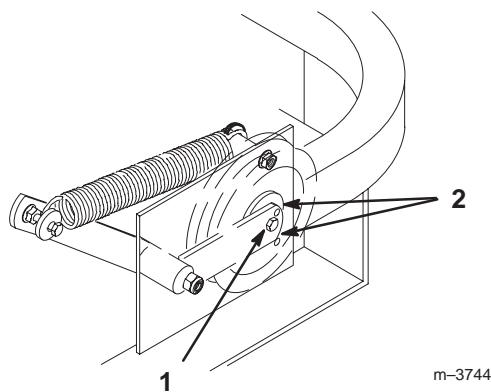

Figure 69
8. Check belt tension. The center bolt of spring loaded idler must be between the two alignment holes in left support plate (Fig 69).
10. Check belt tension again. The center bolt of spring loaded idler must be between the two alignment holes in left support plate (Fig. 69). Adjust, if necessary, and tighten all hardware securely.